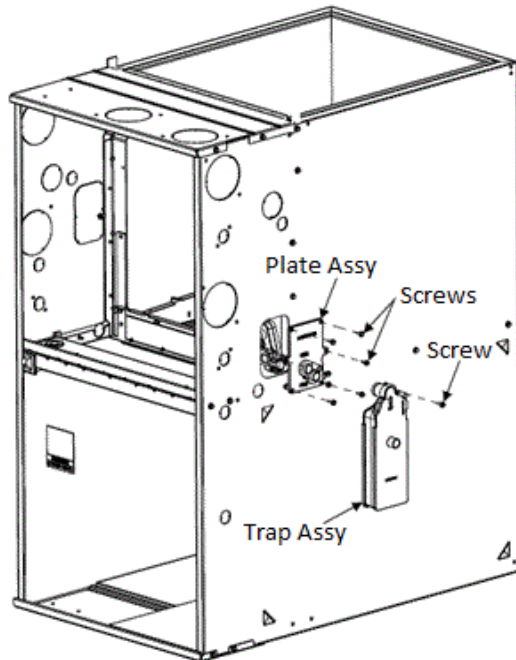

Fig. 15 – Upflow Condensate Drain
2. Screw the adapter plate to the trap adapter using provided machine screw (see Fig. 15).
3. Screw the adapter plate to the side of casing using six (6) of the provided sheet metal screws (see Fig. 15). Drilling pilot holes is recommended to better align the plate with the rectangle opening.
4. Screw the trap to the adapter plate using provided machine screw (see Fig. 15).
2. Screw the adapter plate to the side of casing using six (6) of the provided sheet metal screws (see Fig. 15).